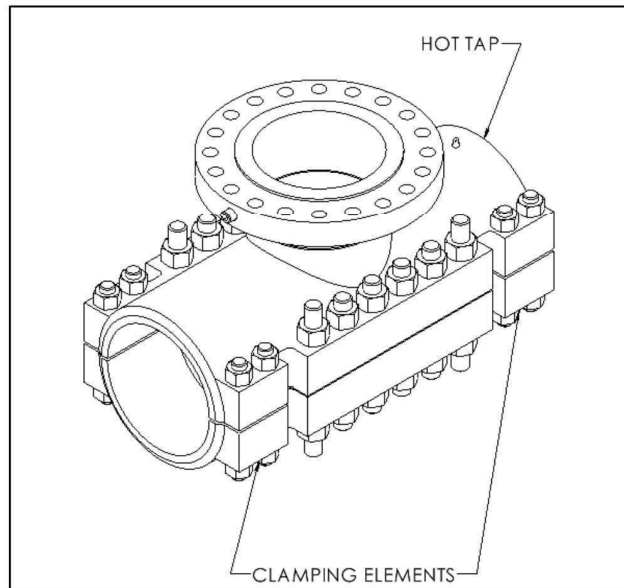
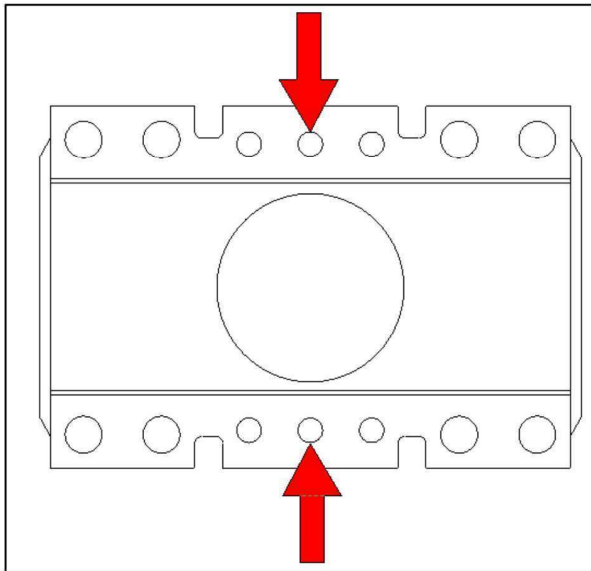

Figure 11
Figure 12
This section details the installation procedure for standard bolt on PLIDCO Hot Tapping+Saddle with clamp ends as shown in Figure 11.
5. Install the studs and nuts through the holes in the Hot Tapping+Saddles as shown in Figure 11. Most Hot Tapping+Saddles will have two different stud lengths for the sealing section. The clamping elements typically all have the same length of studs, and sometimes a different diameter than the sealing section. Make sure the longer studs are in the proper bolt holes. PLIDCO Hot Tapping+Saddles with 3 holes per side in the sealing section should have the longer studs in the two center holes. Hot Tapping+Saddles with more than 3 holes per side in the sealing section should have the longer studs in the four corner holes (see Figures 12 and 13).